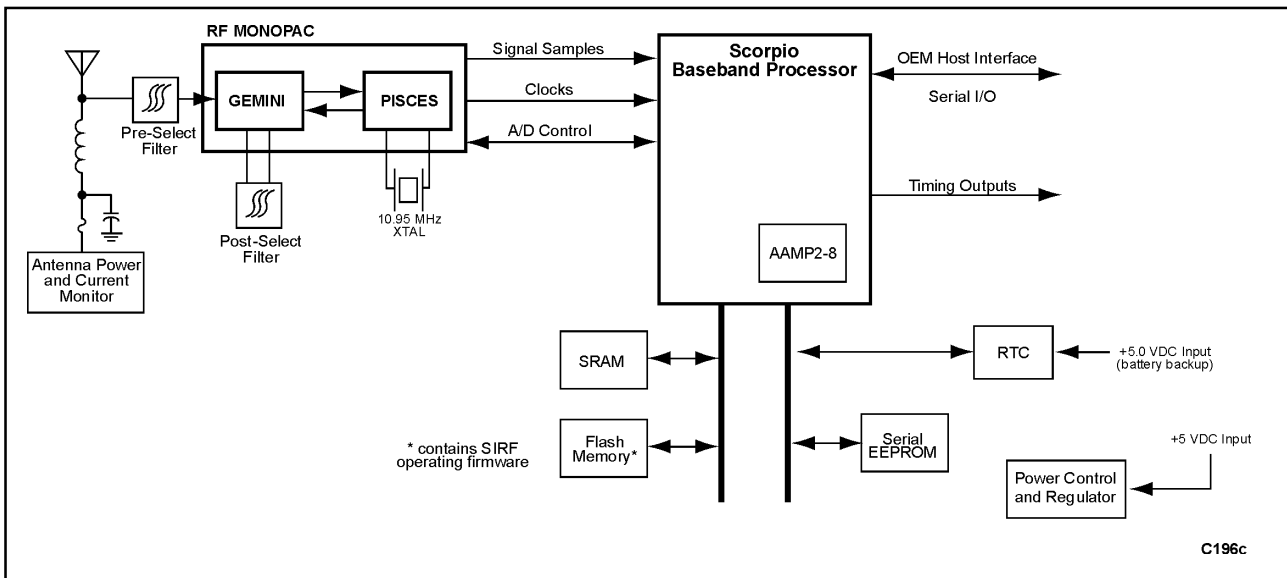

Figure 4. Jupiter-T Receiver Architecture
Receiver Architecture. The functional architecture of the Jupiter-T receiver is shown in Figure 4. The receiver design is based on the SIRF Zodiac chipset, the Gemini/Pisces MonoPac and the Scorpio Baseband Processor, which contains the required GPS functionality. The Gemini/Pisces MonoPac contains all the RF downconversion and amplification circuitry, and presents the In-Phase (I) and Quadrature-Phase (Q) Intermediate Frequency (IF) sampled data to the Scorpio device. The Scorpio contains an integral microprocessor and all the required GPS-specific signal processing hardware. Memory and other external supporting components configure the receiver into a complete timing system.